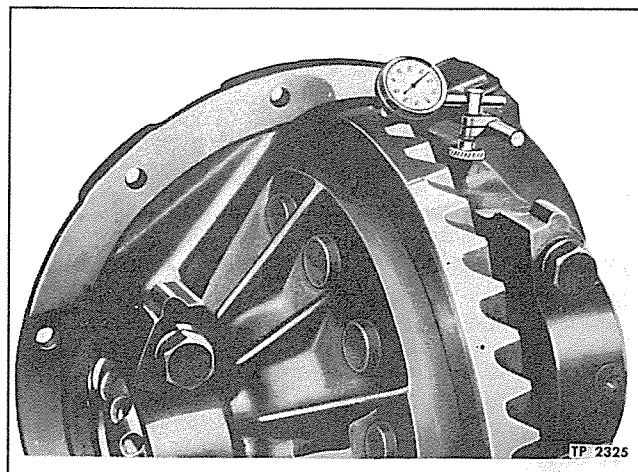

Figure 6—Typical Method of Checking Backlash
5. After completing adjustment of tooth contact and backlash, (fig. 6) tighten side bearing cap stud nuts fully and install adjusting ring locks (3) and bolts (2).
Bevel gears are cut to have a definite amount of backlash which varies according to the pitch and operating conditions. This backlash is necessary for the safe and proper running of the gears. If gears are set too tightly they will be noisy, wear excessively, and possibly score the tooth surfaces. Use a dial indicator (fig. 6) to adjust bevel drive gear and pinion gear backlash. Refer to "Specifications" at end of this section for limits.